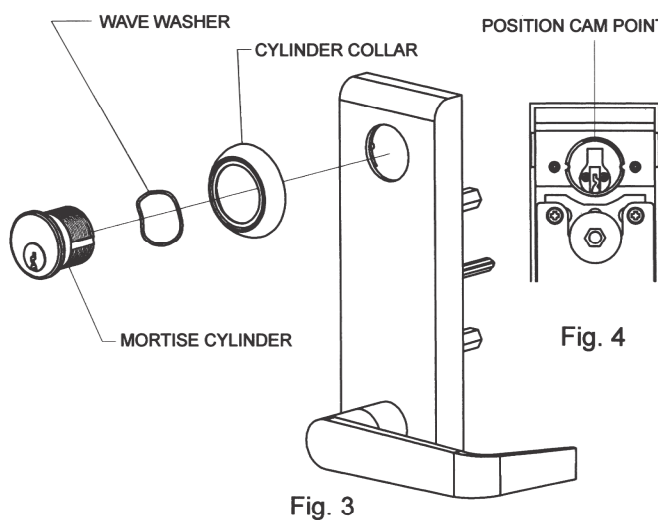

Fig. 3
1. Slide wave washer and cylinder collar onto mortise cylinder body. (See Fig. 3.)